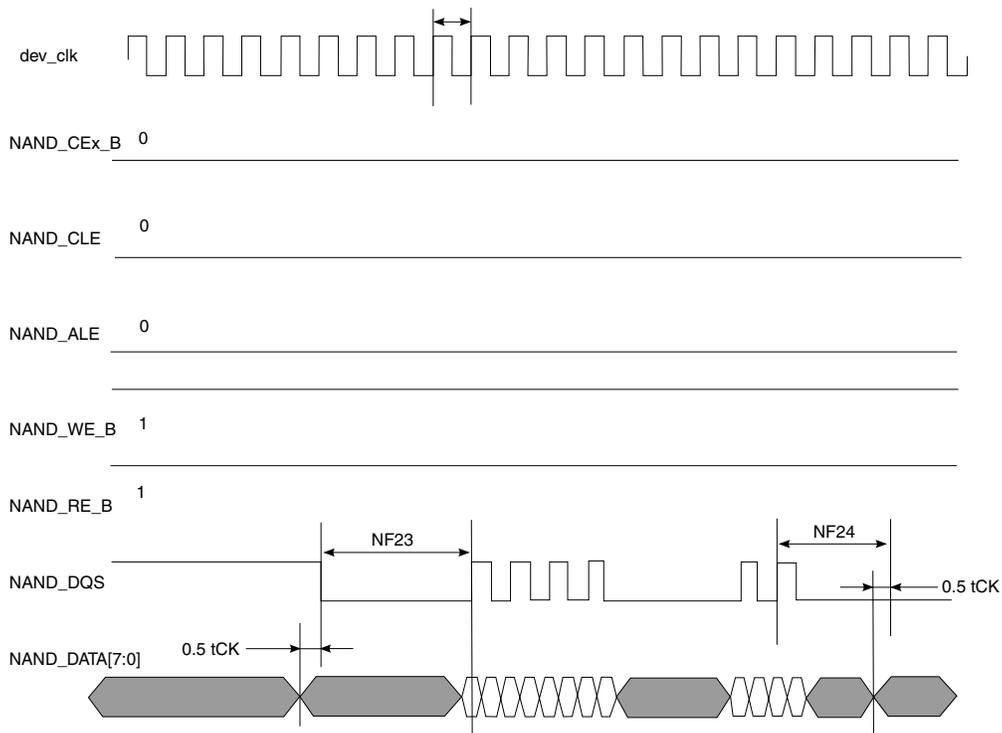

Figure 34. Samsung Toggle Mode Data Write Timing
- ⁶ Shown in Figure 34, Samsung Toggle Mode Data Write Timing diagram.